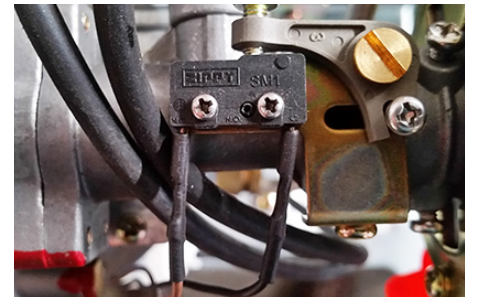

Fig. 16
- Disconnect the microswitch's cables (Fig. 16)